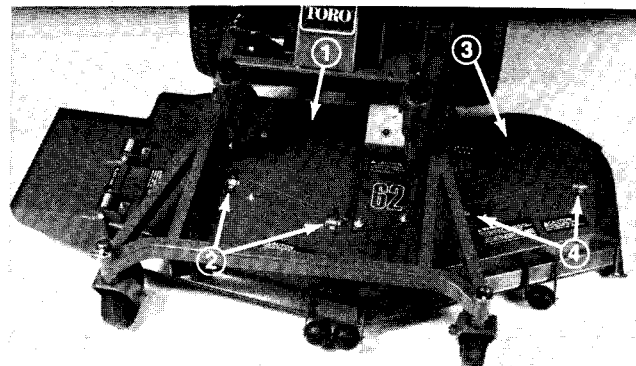

Figure 18
2. Remove the center cover from the top of the cutting unit (Fig. 18).